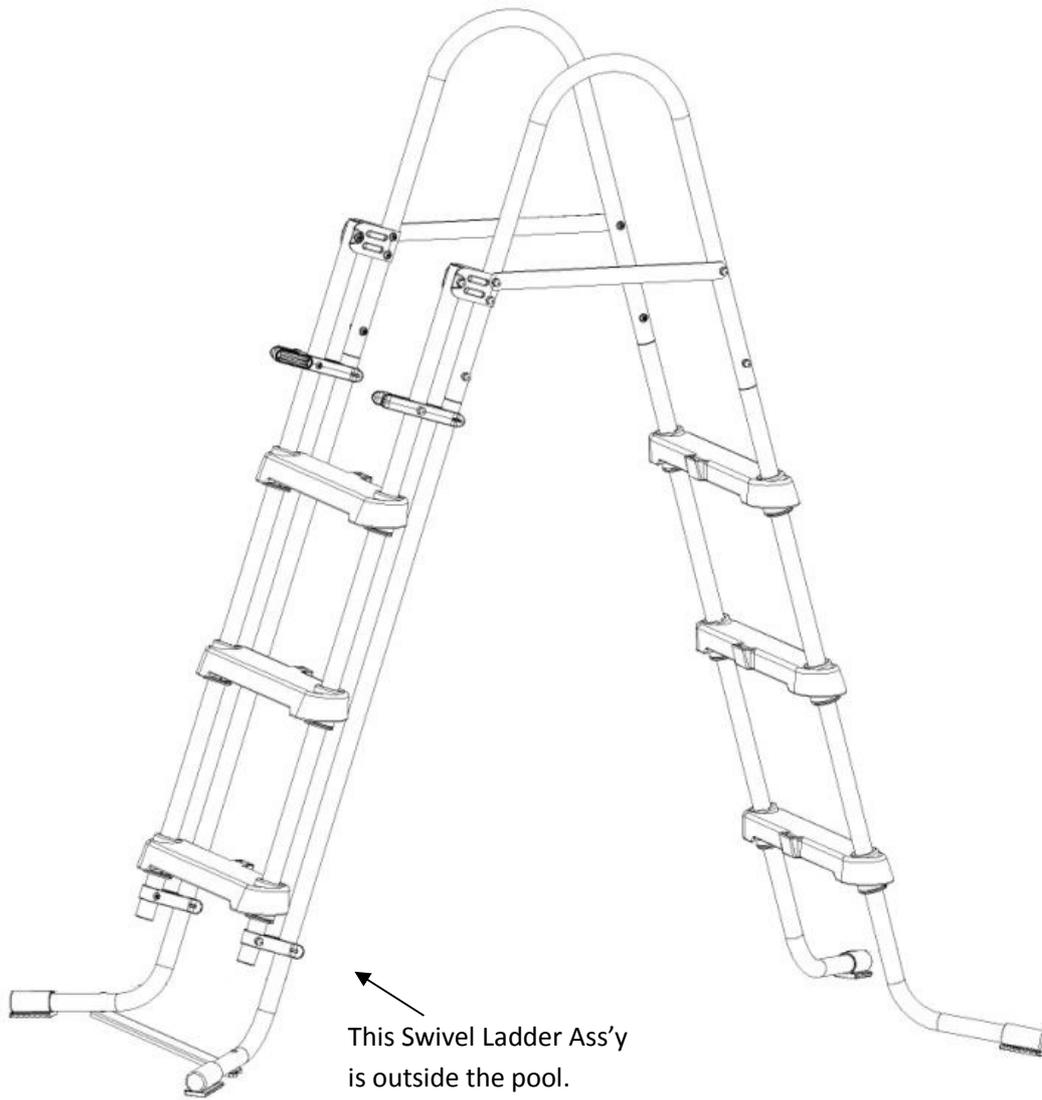

Fig. 7
19. The **Swivel Ladder Ass'y** should be put **outside** the pool. Make sure the Ladder Latches (54) are clipped on the Ladder Clamps (53) when the ladder is in use. (See Fig. 7)
21. To use the ladder, press the button of the Swivel Ladder Clamp with Button (53) and swing the ladder to the use position as shown in the Figure 7.